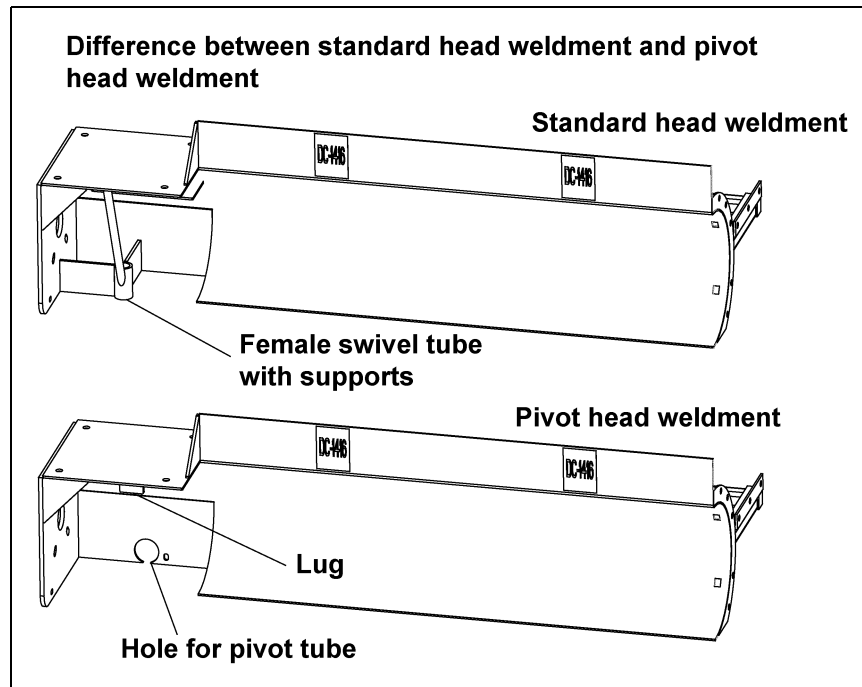

Figure 1B
The following drawing (*Figure 1B*) is of a 16" pivot sweep head end weldment and a 16" standard sweep head end weldment. There are very few differences between the two. The standard head weldment has the female pivot tube welded to the drive end of the unit. Two (2) plate braces and one (1) pipe brace support this tube. The pivot head weldment has a lug welded to the underside of the motor mount plate. This lug is for attachment of the sweep pivot rod assembly. There is a large hole in the rear plate for the center support tube assembly to pass through. Next to the large hole is a slot that the center support mounts to.